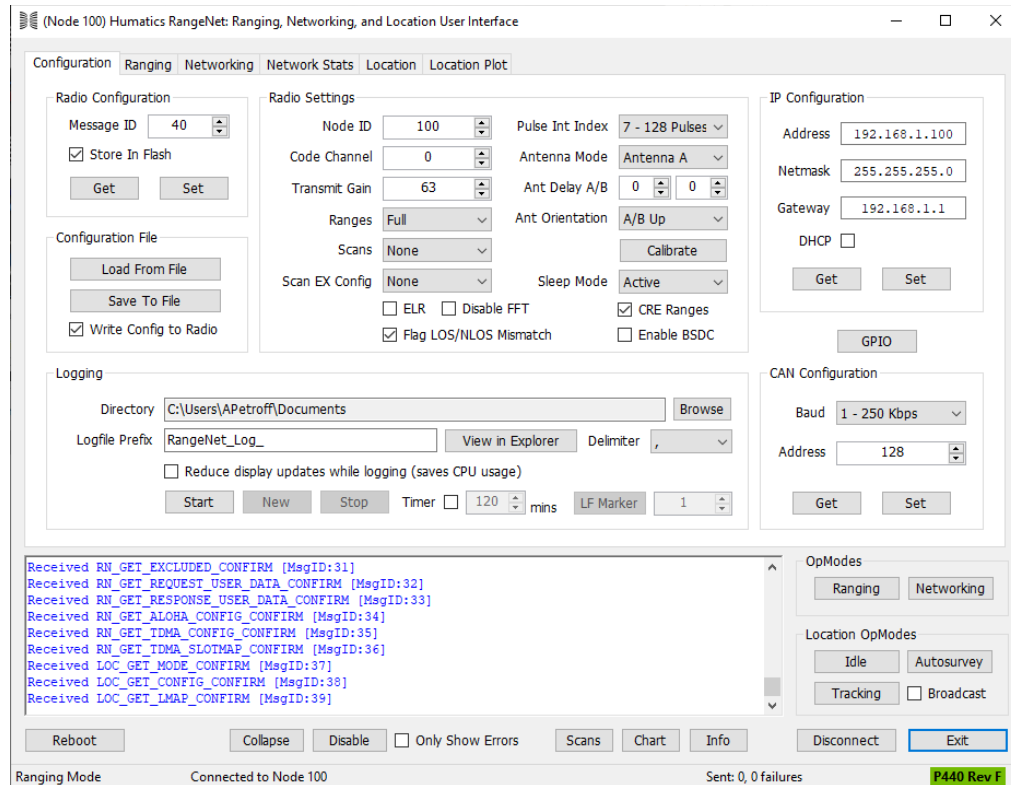

Fig. 9: RangeNet GUI successfully connected to the P440
3. If the connection is successful, then select the Location option, click the USB button, and then click the **Connect!** button. The main operating window will open (**Figure 9**). The status window at the bottom should contain a large number of confirm messages.